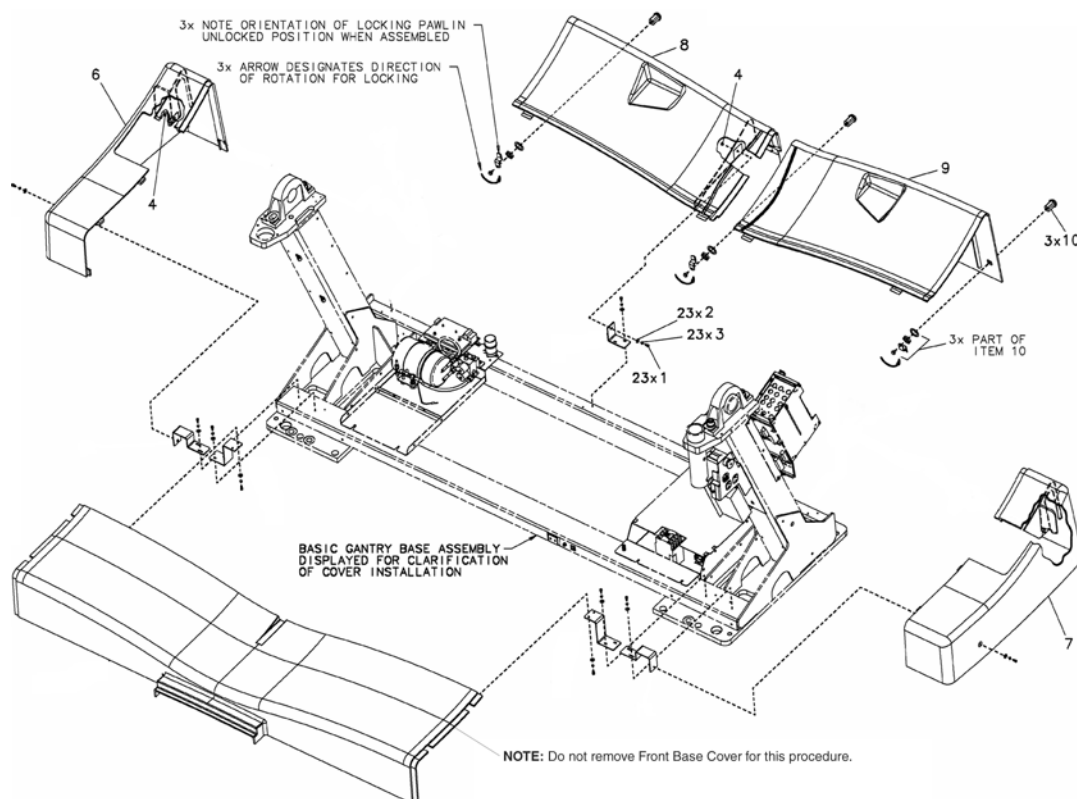

Figure 2-3 Gantry Base Covers, exploded view
- 3.) Remove both left and right Gantry side base covers (items 6 & 7, respectively, in Figure 2-3) and then both rear base covers (items 8 & 9, in Figure 2-3).